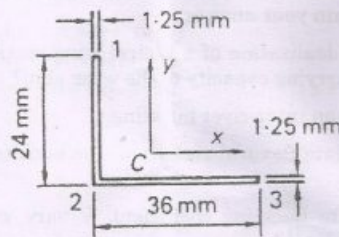

Figure 2
- (b) The thin-walled section given in Figure 2 is subject to a vertical shearing force of 900 N. Obtain the shear flow distribution and plot the same. Which point will experience maximum shear flow? (13)